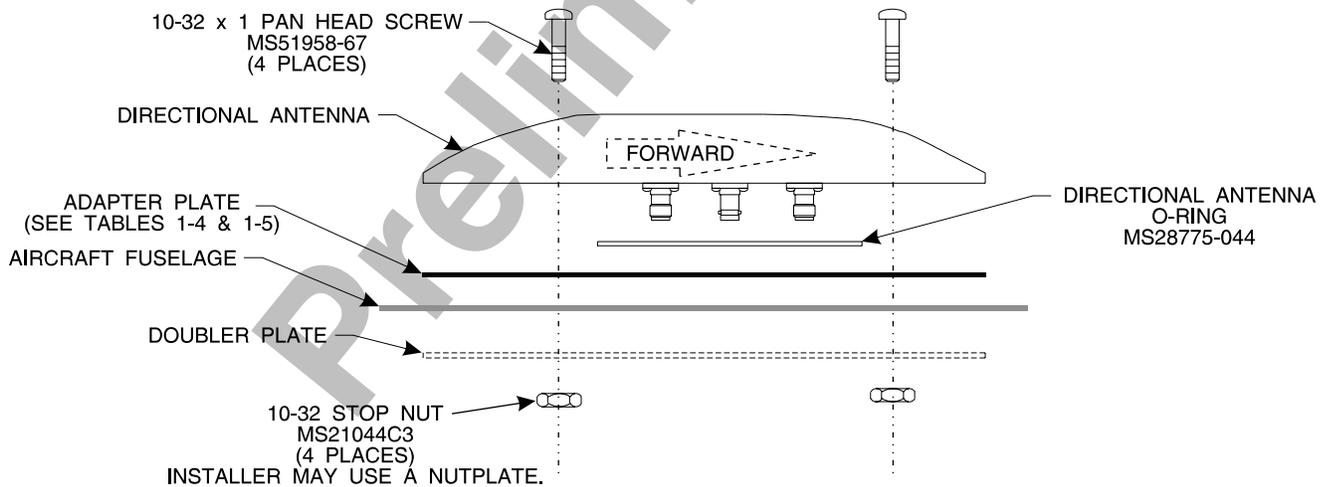

Figure 2-11. Directional Antenna Installation
2. Attach the antenna to the aircraft, with the special adapter plate and o-ring, using 10-32 hardware provided. See Figure 2-11.